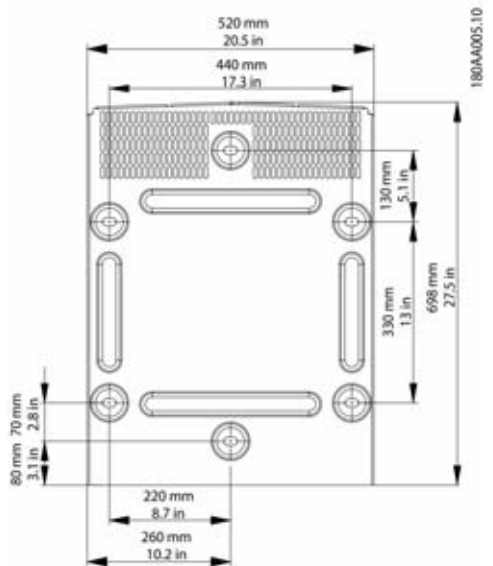

Figure 3.9: Wall mounting bracket
- Observe safety clearances when installing one more inverters to ensure adequate airflow. Clearances are specified in figure 3.9 and on the wall mounting bracket label.